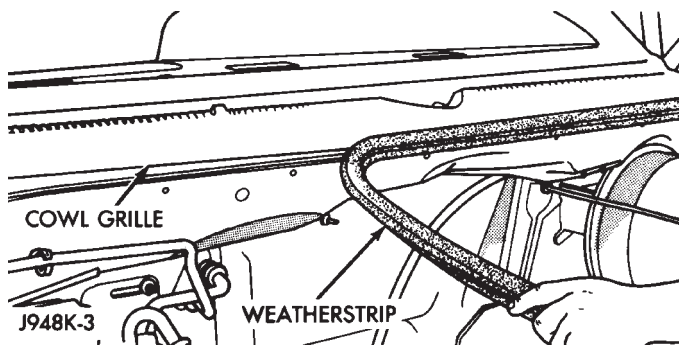

Fig. 39 Cowl Plenum Cover/Grille Panel Weatherstrip
(1) Disconnect and isolate the battery negative cable.
(2) Remove the wiper arms from the wiper pivots. Refer to Wiper Arm in the Removal and Installation section of Group 8K - Wiper and Washer Systems for the procedures.
(3) Remove the weatherstrip along the front edge of the cowl plenum cover/grille panel and the cowl plenum panel (Fig. 39).